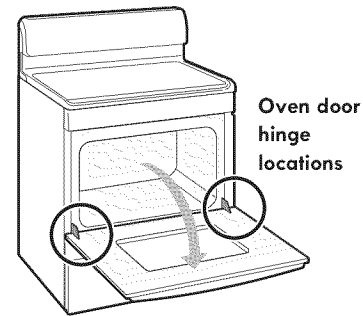

Figure 44: Oven hinge locations
1. Open oven door completely (horizontal with floor - Figure 44).
3. Fully open the oven door (horizontal with floor - Figure 44).